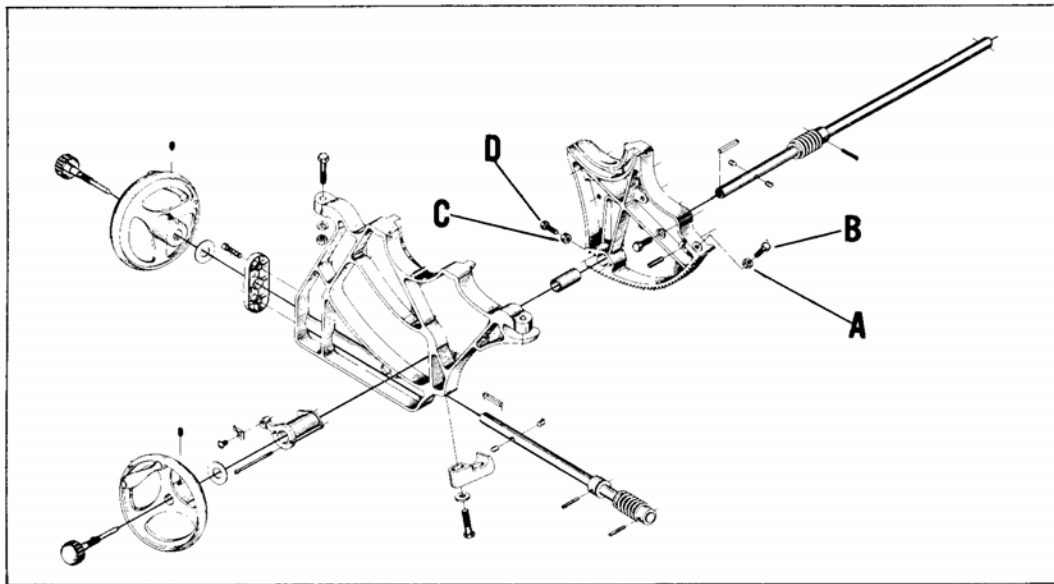

Fig. 11.
If an adjustment is necessary, loosen locknut (A) Fig. 11, and turn adjusting screw (B) against the lug on the front trunnion when the blade is at 90 degrees to the table. Then tighten locknut (A).
4. Tilt the saw to 45 degrees and check with a combination square. If an adjustment is necessary, loosen locknut (C) and adjust screw (D) Fig. 11.